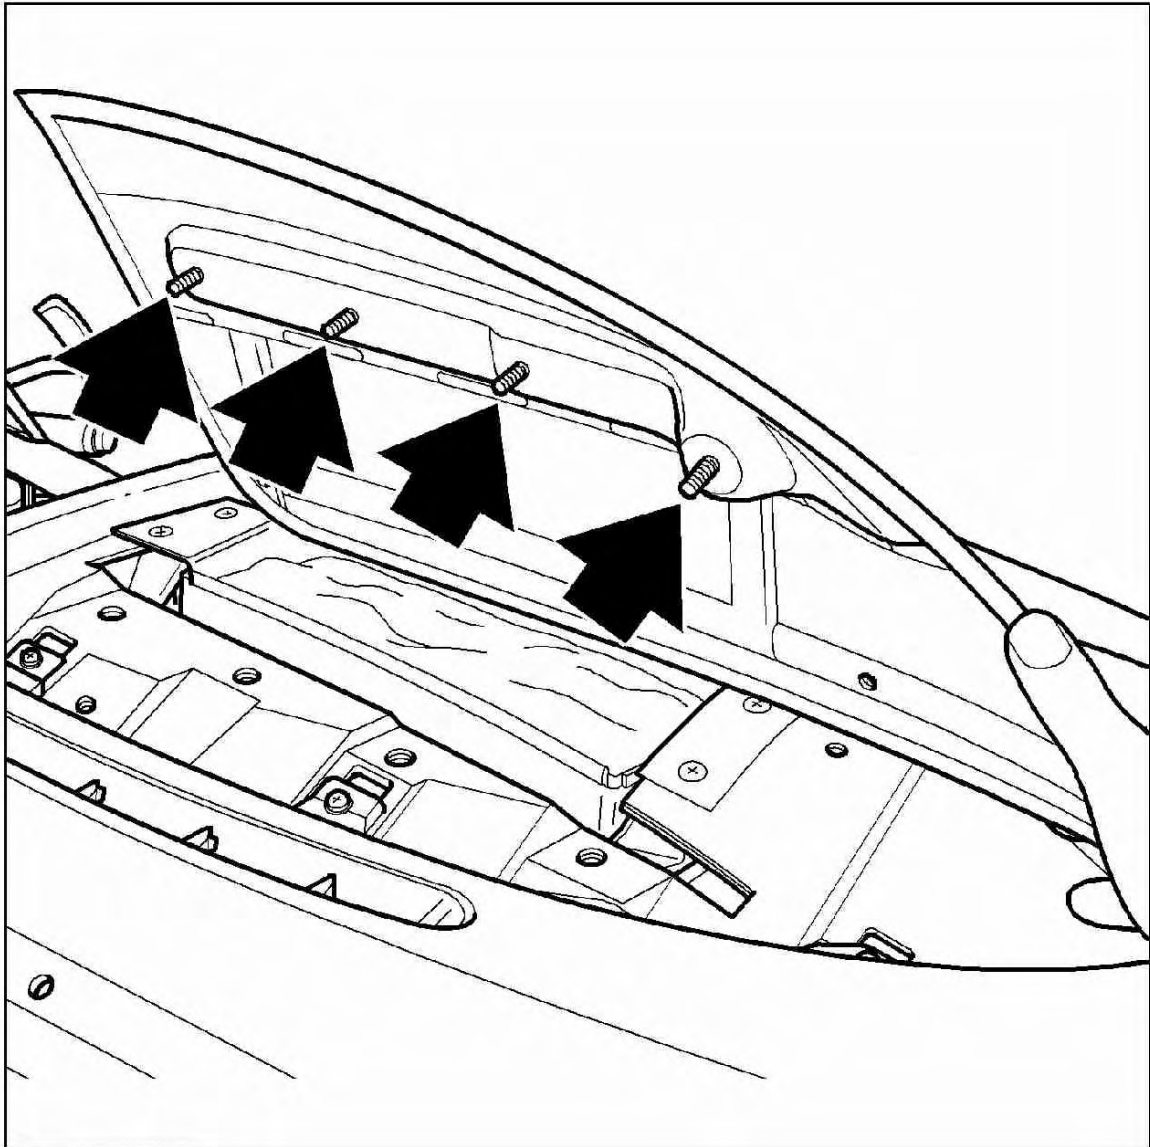

Figure 7
6. Whilst pushing from below lift the trimmed cover off the top roll (see Figure 7). Note: Figure 7 is viewed from behind the instrument panel as though looking through the windscreen